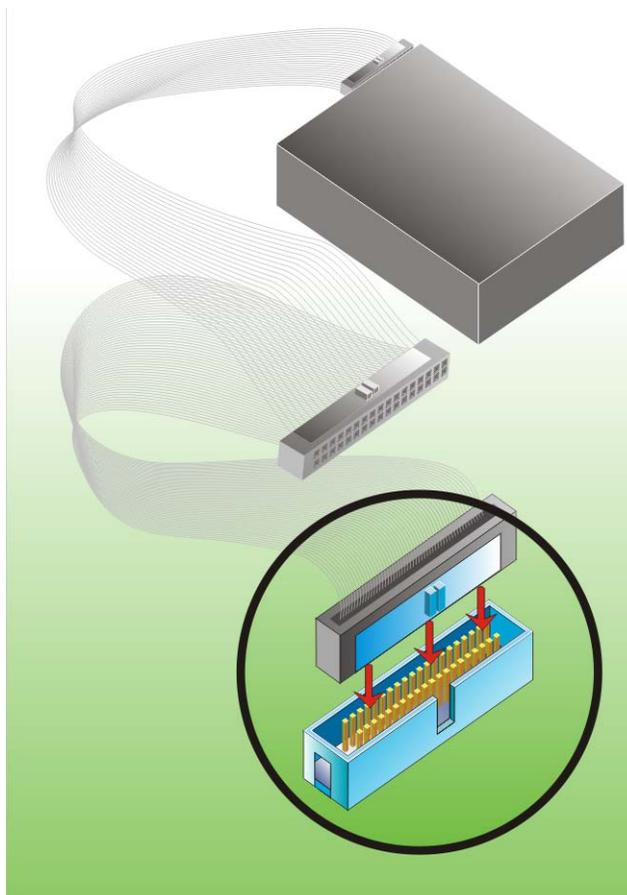

Figure 5-8: IDE Cable Connection
Step 2: Insert the connector. Connect the IDE cable connector to the onboard connector. See **Figure 5-8**. A key on the front of the cable connector ensures it can only be inserted in one direction.